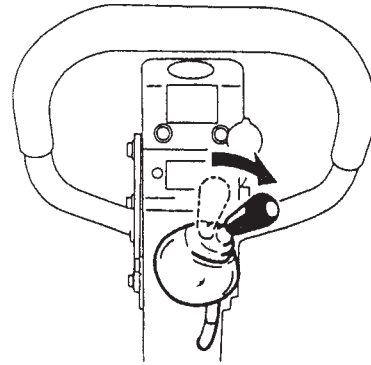
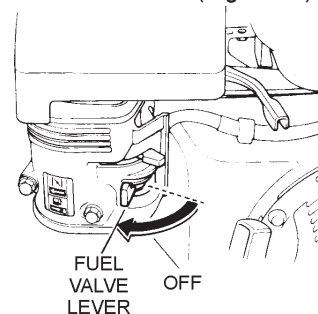

Figure 14. Throttle Lever (Stop)
Figure 16. Fuel Valve Lever (OFF)
2. Turn the **throttle lever** to the **STOP** position (Figure 16) to stop the engine. In a motor start, return the key switch to the **STOP** position (Figure 14) as soon as the engine stops.
4. Place the **fuel shut-off lever** (Figure 16) in the **OFF** position.
1. Move the throttle lever quickly to the **STOP** position (Figure 14).